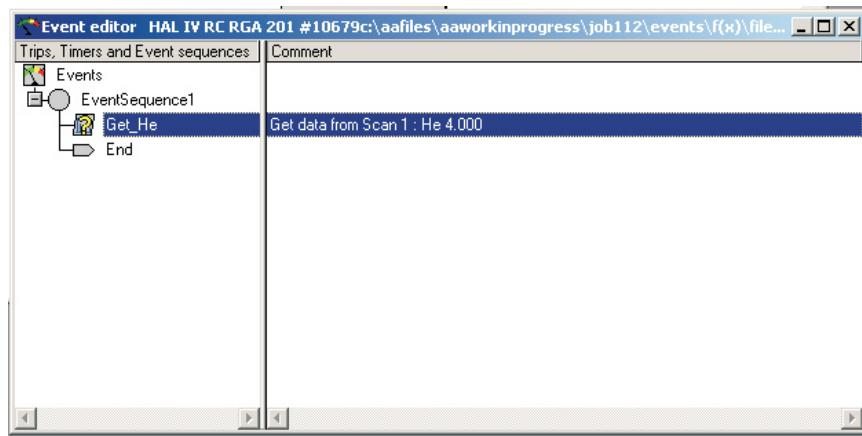

Figure 61 Event sequence with get helium event
- The **Event editor** window will now look like the one in Figure 61.